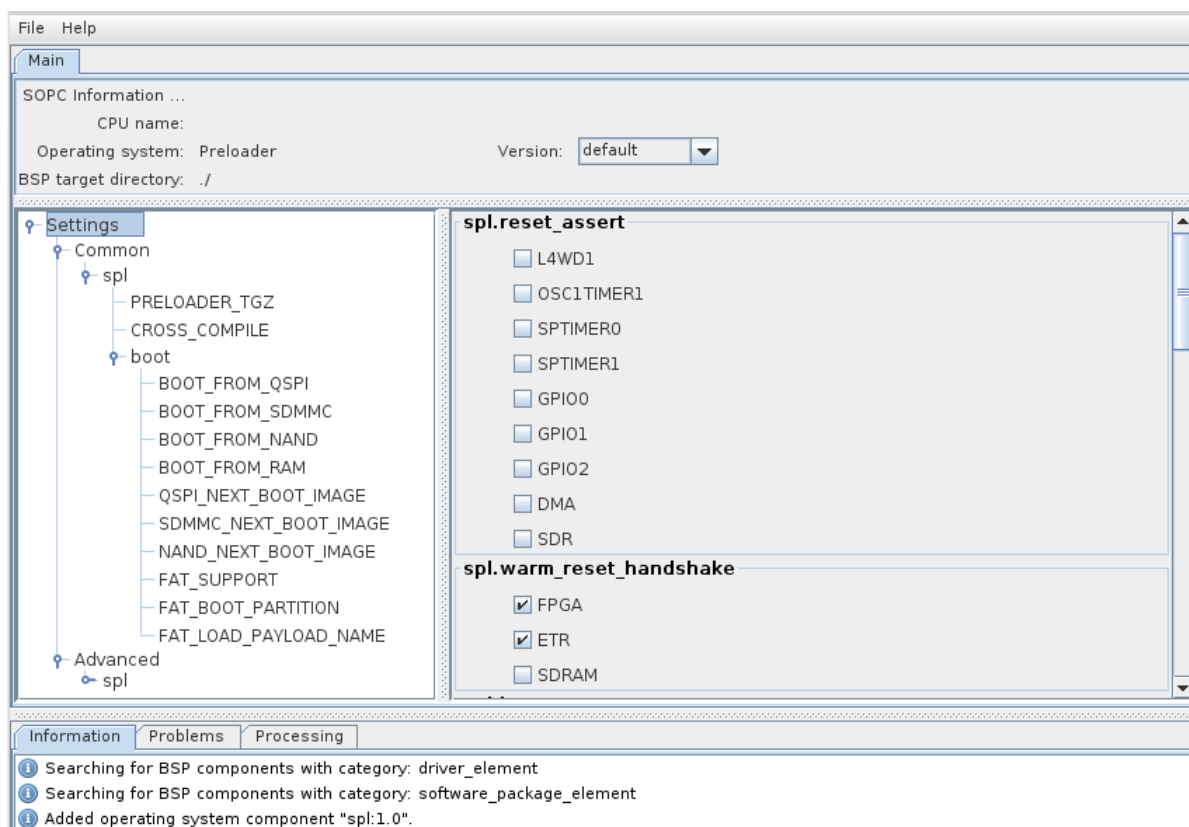

Figure 8-21. Preloader Settings Dialog
- c. Press the “OK” button. You should then arrive on a page with many settings, as shown on Figure 8-21. Take some time to read through them to see what the preloader has the ability to do.
12. On the main settings page of Figure 8-21, we will only need to modify 2 parameters for our design.